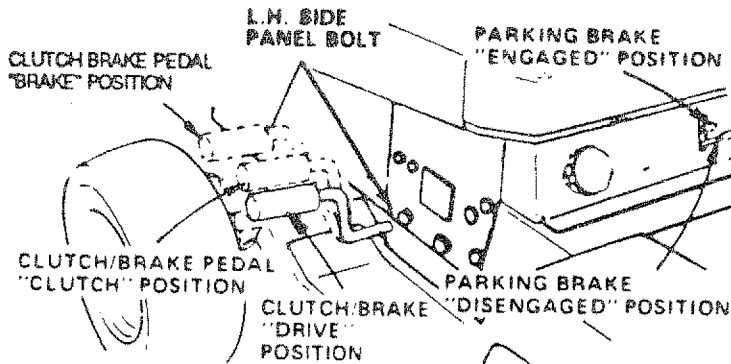

FIGURE 16
- c. Push clutch/brake pedal down firmly (Fig. 16).
- i. Release clutch/brake pedal to start movement (Fig. 16).